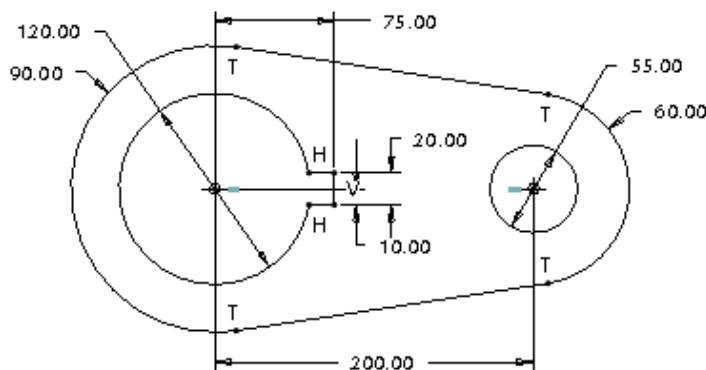

Figure 3-25 Sketch after modifying the dimensions
- Modify the dimensions, refer to Figure 3-25.
3. Clear the **Regenerate** check box and then modify the dimensions of the keyway, refer to Figure 3-25. When you clear the check box, the sketch does not regenerate as you modify the dimensions.
The sketch after modifying the dimension values of the sketch is shown in Figure 3-25.